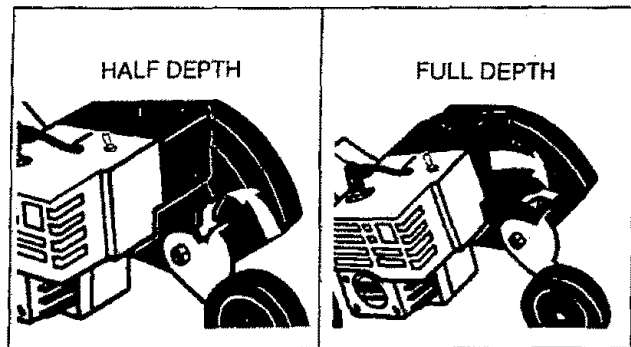

Figure 11
SETTING THE EDGING DEPTH (Fig. 11)
- Move the depth control lever rearward for half depth edging. Figure 11.